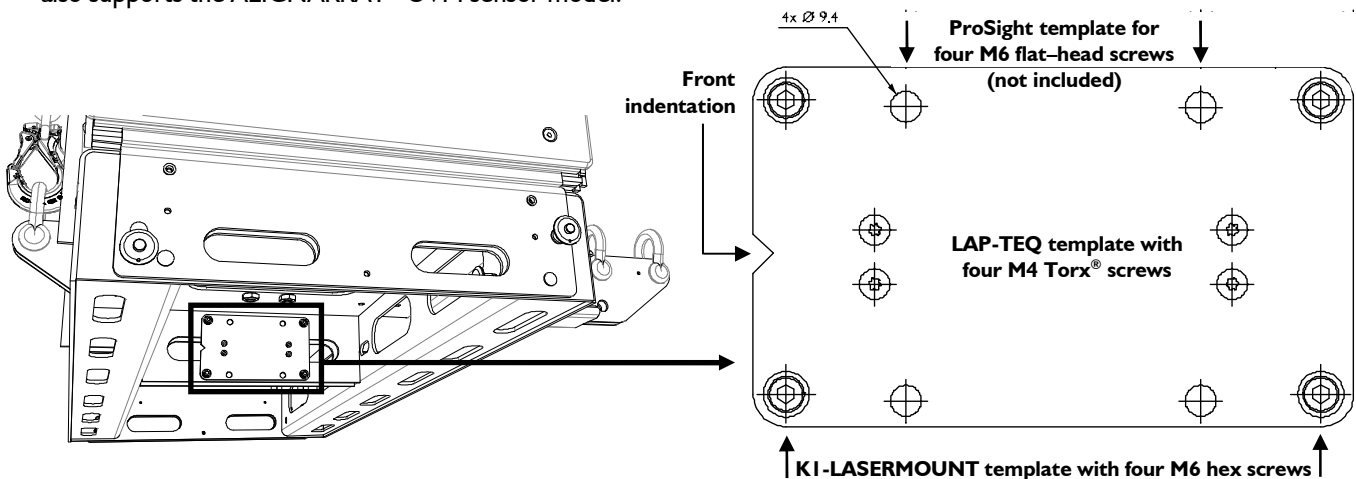

Figure 63: Inclinometer mounting plate inside KI-BUMP
A support plate has been integrated inside the KI-BUMP main frame for remote inclinometer sensor mounting (see Figure 63). Two sensor models are supported: TEQSAS[®] LAP-TEQ (part of the L-ACOUSTICS[®] TECH TOOLCASE, refer to the **TECH TOOLCASE Product spec sheet** [3.4]) and SSE[®] ProSight.
1. Remove the four M4 Torx[®] screws (T20) from the LAP-TEQ template (Figure 63).